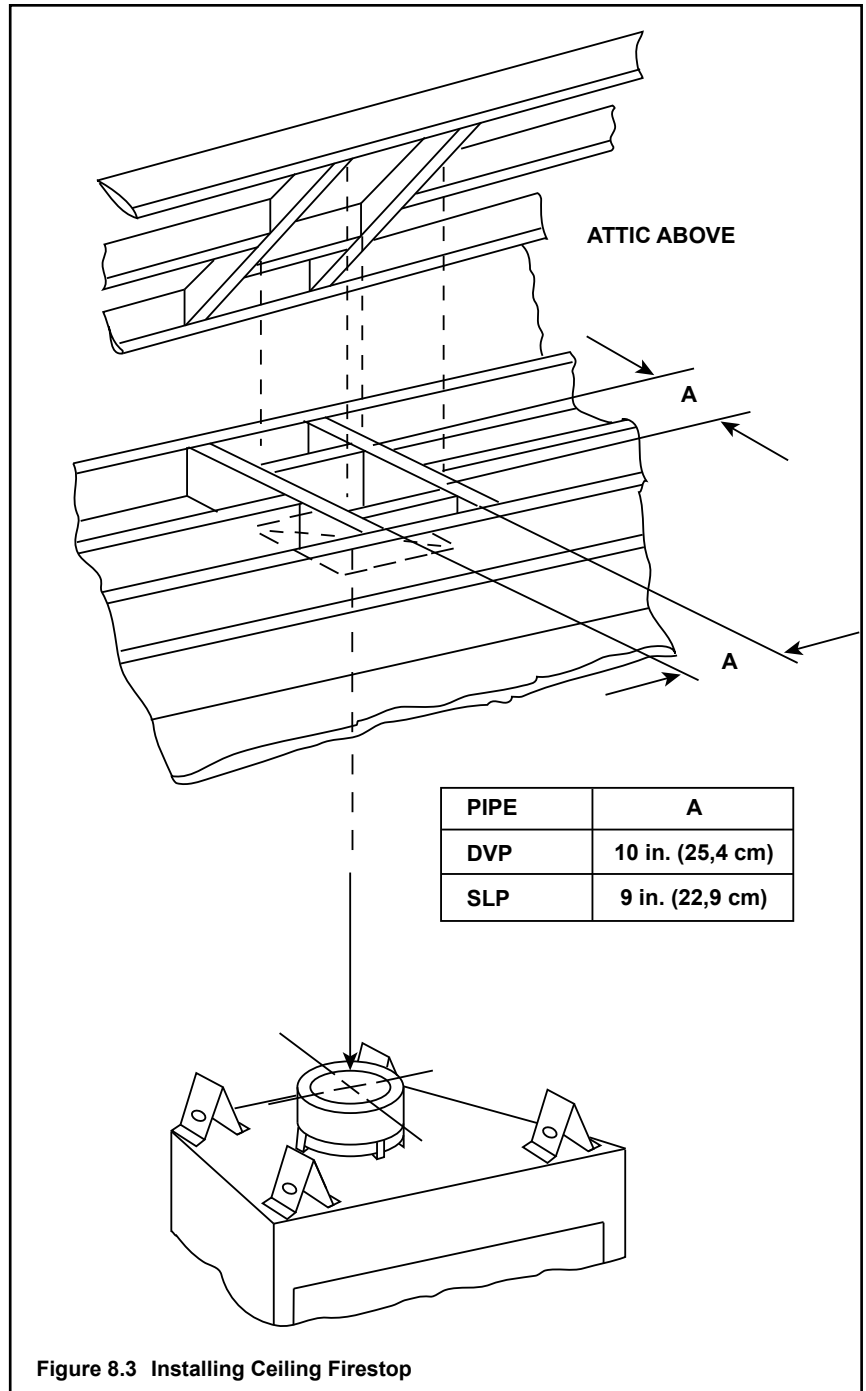

Figure 8.3 Installing Ceiling Firestop
- **DVP pipe only** - Frame an opening 10 in. by 10 in. (25,4 cm by 25,4 cm) whenever the vent penetrates a ceiling/floor (see Figure 8.3).
- **SLP pipe only** - Frame opening 9 in. x 9 in. (22,9 cm x 22,9 cm) whenever the vent penetrates a ceiling/floor (see Figure 8.3).